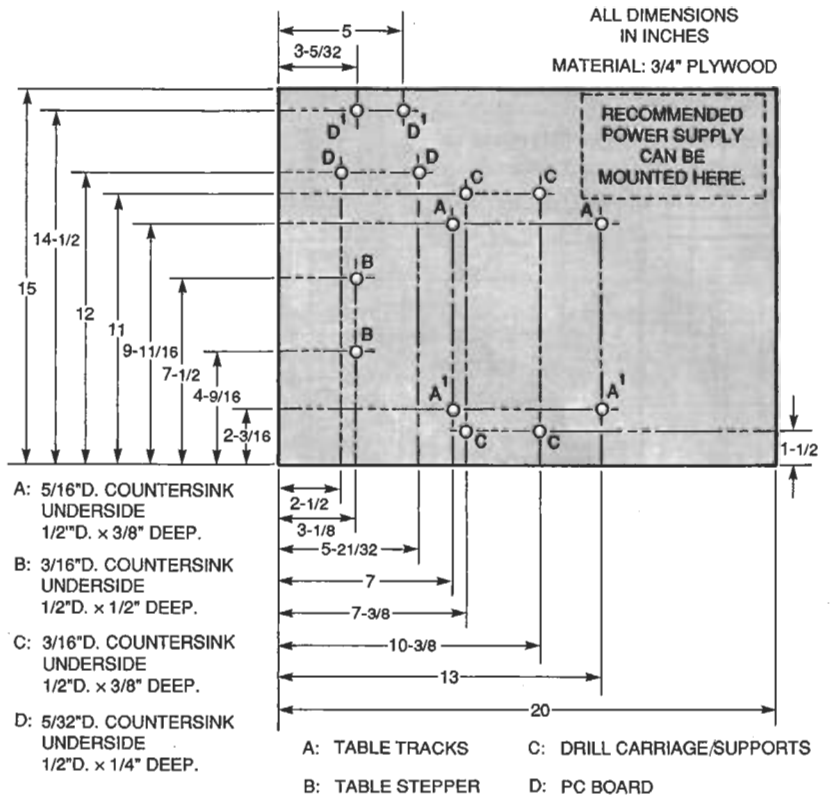
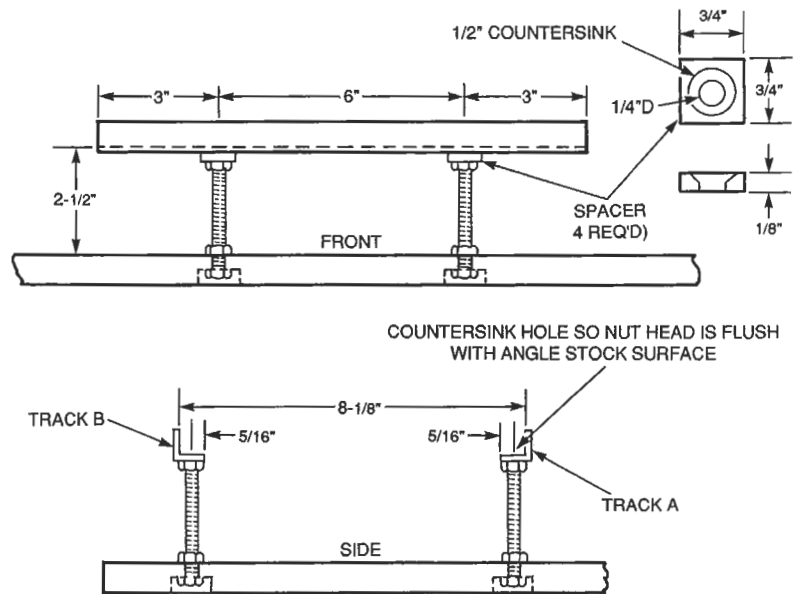

Fig. 4. The base plate has 14 holes in four groups (A, B, C, and D). Be sure to countersink all holes.
Fig. 6. Fabricate the table tracks from 12-inch lengths of  $\frac{3}{4}$ -inch aluminum angle stock.
**The Base.** As shown in Fig. 4, the base is a piece of plywood (or similar material) measuring  $15 \times 20 \times \frac{3}{4}$  inches. Drill 14 holes in the base, and countersink all 14 from the underside. That prevents mounting nuts from protruding from the bottom of the base.
Note in Fig. 4 that there are four groups of holes, denoted A, B, C, and D. Attach four threaded spacers to the D holes with 6-32 screws. Then attach the PC board to the spacers with 6-32 screws. Note that two of the screws will go through both J1 and the PC board. Also, mount the power supply in the indicated position at this time. For our prototype, we mounted the PC board and power transformer to a  $4 \times 3\frac{1}{2} \times \frac{1}{4}$ -inch scrap of plywood, and attached it to the base using #8  $\times \frac{3}{4}$ -inch sheet-metal screws.
**Table and Tracks.** Cut the table tracks from  $\frac{3}{4} \times \frac{3}{4} \times \frac{1}{8}$ -inch aluminum angle stock. Cut two 12-inch lengths, then locate and drill four  $\frac{1}{4}$ -inch holes as shown in Fig. 6. Countersink the holes with a  $\frac{1}{2}$ -inch drill bit so that the flat heads of the machine
Now form four spacers from  $\frac{3}{4}$ - $\times$   $\frac{1}{8}$ -inch flat aluminum stock, also as shown in Fig. 6. Pass a  $\frac{1}{4}$ -20  $\times$  3-inch machine screw through each hole, place one spacer on each screw (countersunk side first), and then thread two  $\frac{1}{4}$ -inch nuts onto each screw. Tighten the first nut on each screw to secure the screw to the track, making sure each screw is perpendicular to the track. Thread the remaining nut on each screw about  $1\frac{1}{2}$ -inch above the bottom of the screw.
Insert the screws into the A holes on the base (Fig. 4). Then, as shown in Fig. 6, thread another nut onto each screw and adjust the nut so that the inside horizontal surface of each track (on which the Table will rest) is exactly  $2\frac{1}{2}$ -inch above the base. Secure the tracks to the base by tightening the top nuts. Adjust the tracks so that the inside vertical surfaces are  $8\frac{1}{8}$ -inch apart.
After the glue dries, place the base on the table tracks with the block resting over Track A (see Fig. 6). Place the table guide on the block so it overlaps Track A. Push the block flush with the inside vertical surface of Track A. Place a piece of paper or a business card against Track A's outer surface